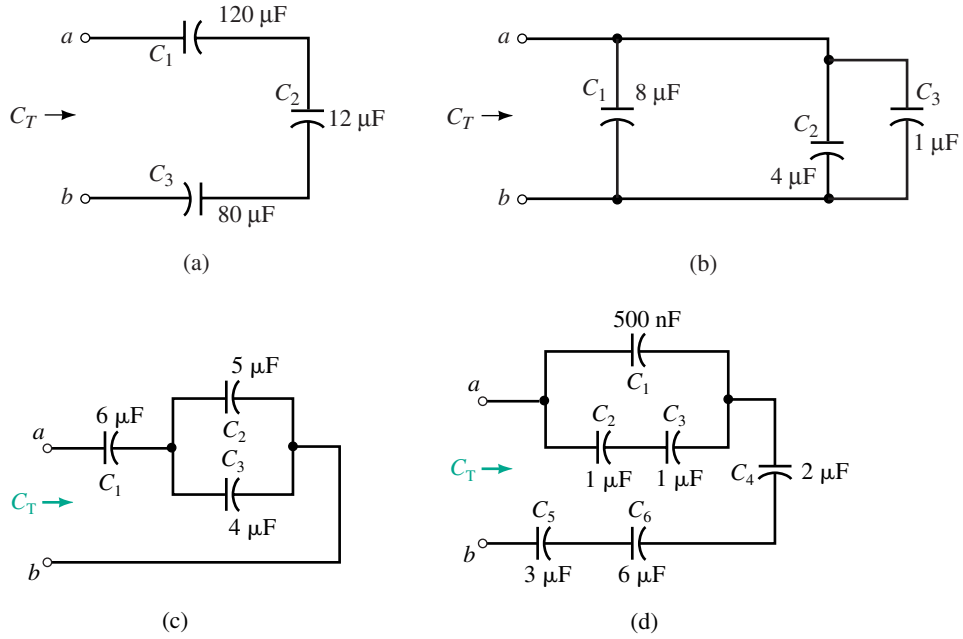

FIGURE 10-32
27. Determine C_T for each circuit of Figure 10-32.